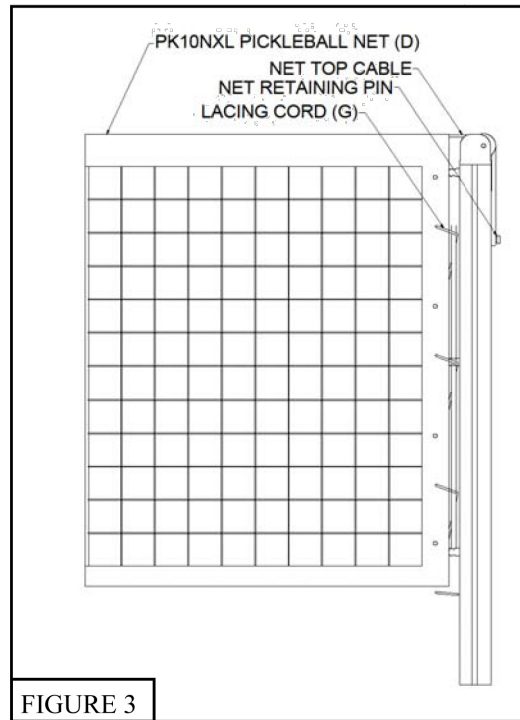

FIGURE 3
- Hook the loop on the *PK10NXL Pickleball Net* (D) top cable around the net retaining pin on *Non-Winch Post* (B) and over the top pulley. See Figure 3.
- Insert dowels through the end side tapes of *PK10NXL Pickleball Net* (D).
- Square up *PK10NXL Pickleball Net* (D) to each post, use *Lacing Cord* (G) to secure *PK10NXL Pickleball Net* (D) to each post. See Figure 3.